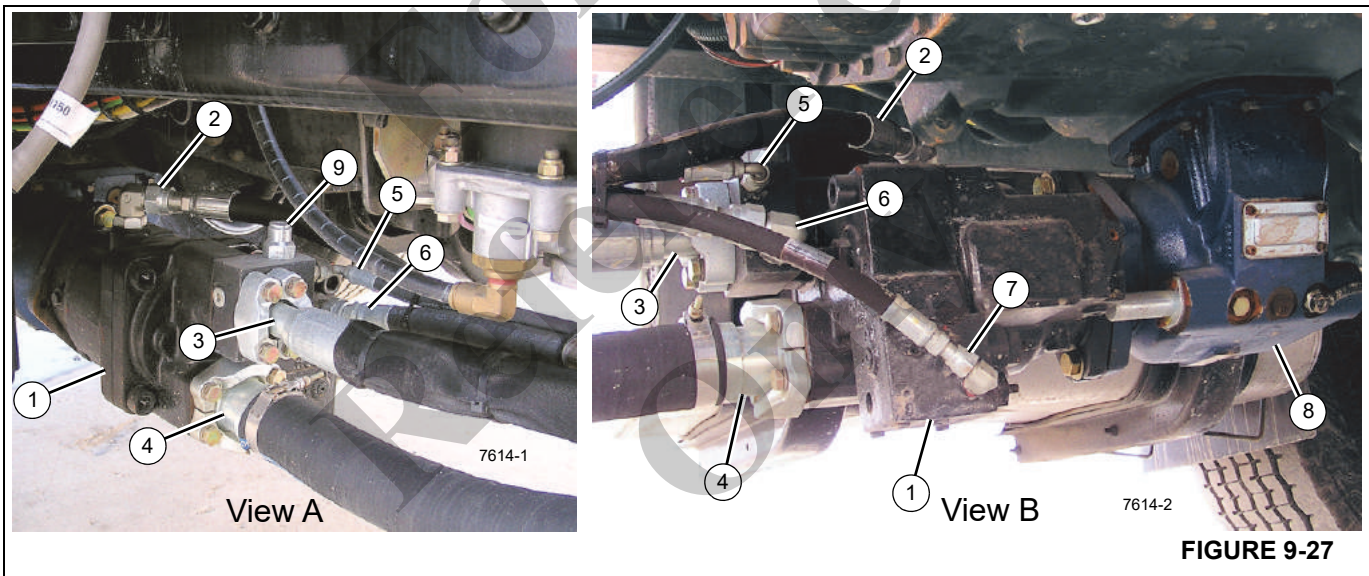

FIGURE 9-27
See Figure 9-27 for the following steps.
The hydraulic system pressure is supplied by a hydraulic pump (1, Figure 9-27) mounted on the truck power take-off (PTO) (8).
10. If using the configuration shown in Figure 9-27 be sure to position the case drain port (2) at the highest point above ground level.
14. Remove the dust covers from the hydraulic pump inlet and outlet ports and install the hydraulic fittings and lines as shown in Figure 9-27.
NOTE: Figure 9-27, View A, shows the left (diver's) side of the hydraulic pump installation and View B shows the right (passenger) side of the hydraulic pump installation.